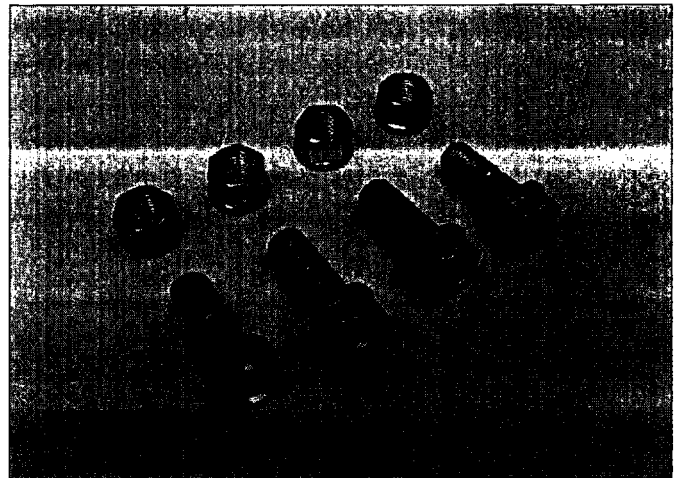

Figure 1b
- Propeller shaft bolt kit (see Figure 1b)